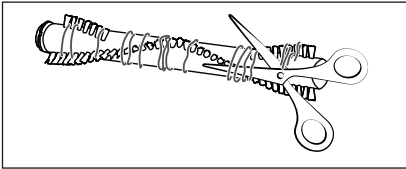

Fig. 26
- 4) Cut threads and hairs along the bristles of the rotary brush **21** with scissors (see Fig. 26). Remove threads and hair from the rotary brush **21**.